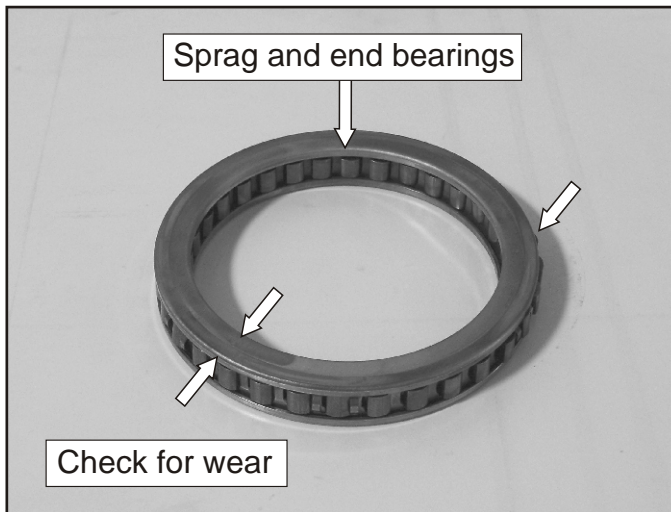

Figure 150
- 96. Inspect the end bearings for wear as shown in Figure 150. Replace as necessary.